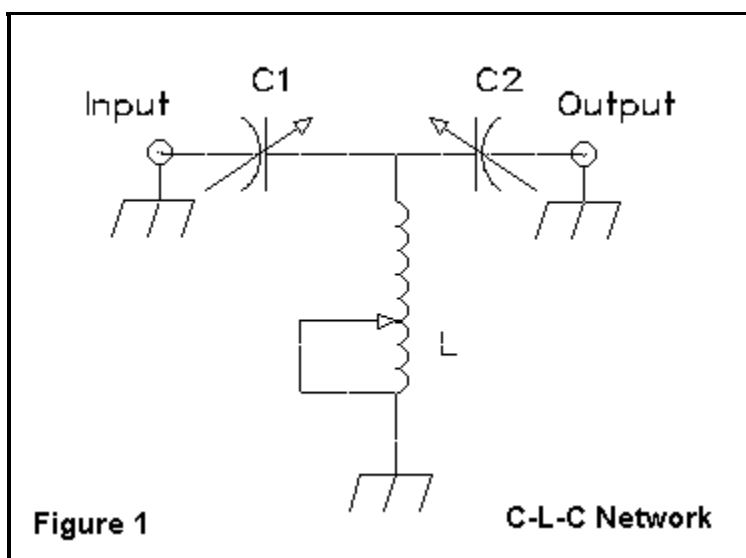

Figure 1. Typical Series-C T circuit.
**1. The basic design:** Most ATUs use a T-network with series capacitors and a shunt inductor, as schematically shown in Figure 1.